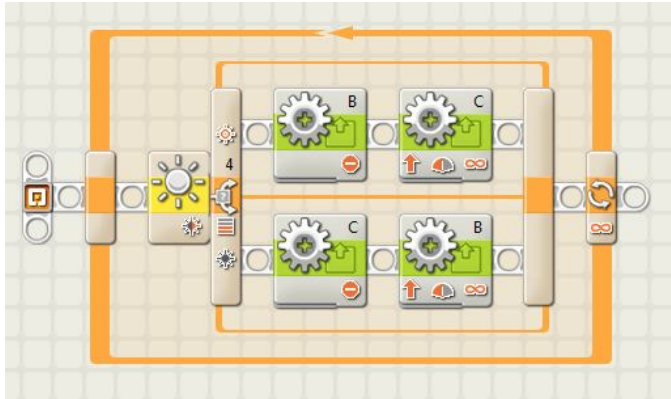

Fig.15.: Simple Line Following Program
A simple switch-based line following program is available in the NXT Education software instructions (LEGO Education). That program, written in the proprietary graphical NXT-G language, is shown below (Fig.15). It is appropriate for a simple robot with two driving wheels using DIFFERENTIAL DRIVE (3) such as the Tribot described earlier.